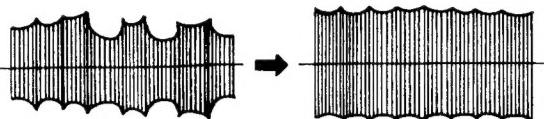

Fig. 5-15
- Adjust T304 for the waveform shown in Fig. 5-15.